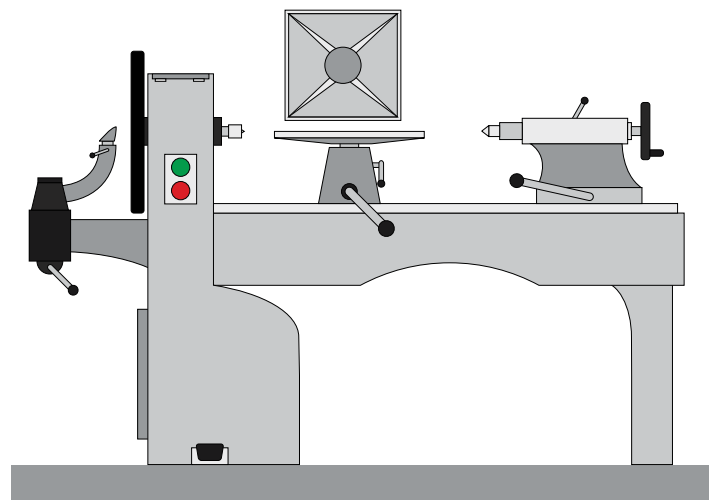

FIG. 34b
- b. Square Hoods provide the most surface area for dust collection and are ideal for tools where dust is widely dispersed such as lathes, router tables, etc. [FIG. 34b]